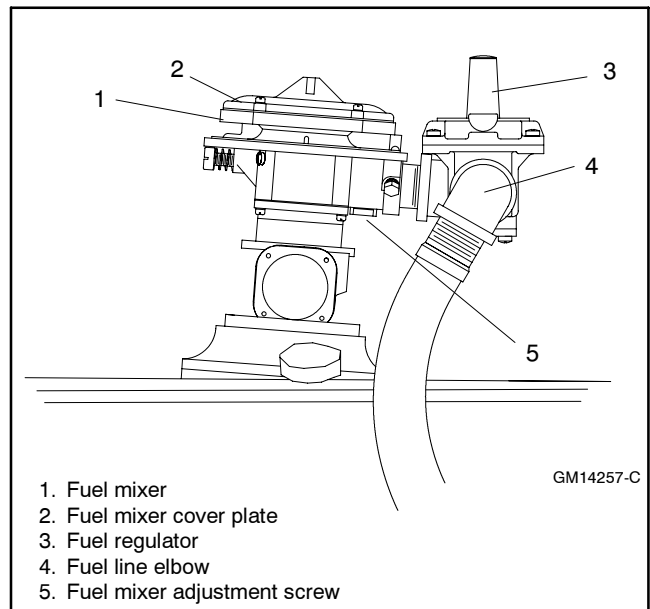

Figure 7-18 Fuel Mixer
- a. Remove the five gas mixer cover plate screws. See Figure 7-18. Be aware that there is a spring under the gas mixer diaphragm, that may cause the cover plate and mixer diaphragm to pop up when the screws are loosened and removed.
- b. See Figure 7-18 for location of the fuel mixture adjustment screw and adjust the fuel mixture